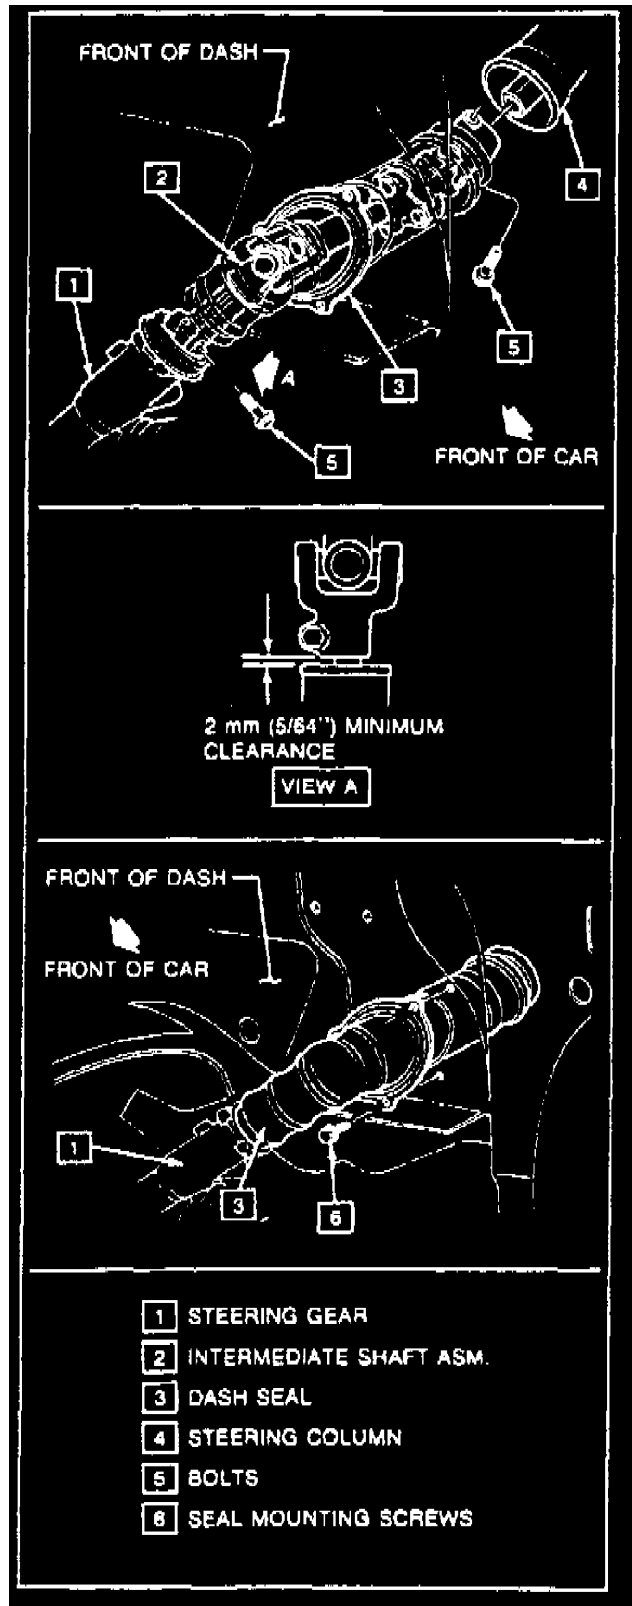

Fig. 13 Intermediate Shaft & Boot
4. Remove pinch bolt from intermediate shaft, **Fig. 13**.